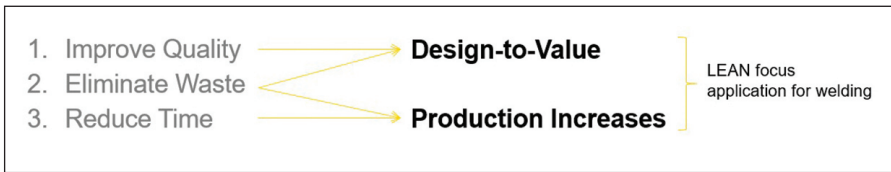

Fig. 3 — Value chain analysis breakdown for welding operations.
As previously mentioned, the value chain analysis can generally be broken down into the following three steps: 1) improve quality, 2) eliminate waste, and 3) reduce time — Fig. 3. To suit these steps to field welding operations more easily, the three steps were further combined into two because waste, in this sense, is not referred to as material waste but rather as wasted company resources. Also, an important facet is that labor cost is such a large part of any welding operation, so the reduce time step was rebranded as production increase in our scenario.
*Fig. 3 — Harris Products Group is selling limited-edition Ironworker outfits to benefit the organization. They come in a U.S. government-issued, 40-mm metal ammunition can and feature Model 25GX gas regulators with a special digital-camo pattern.*